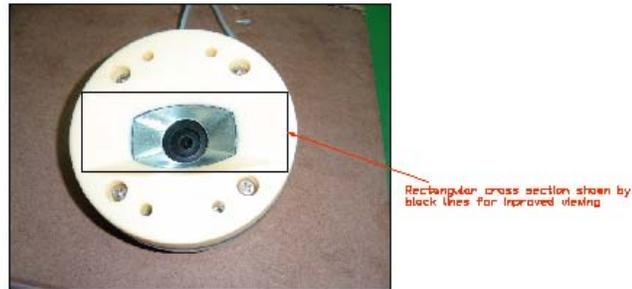
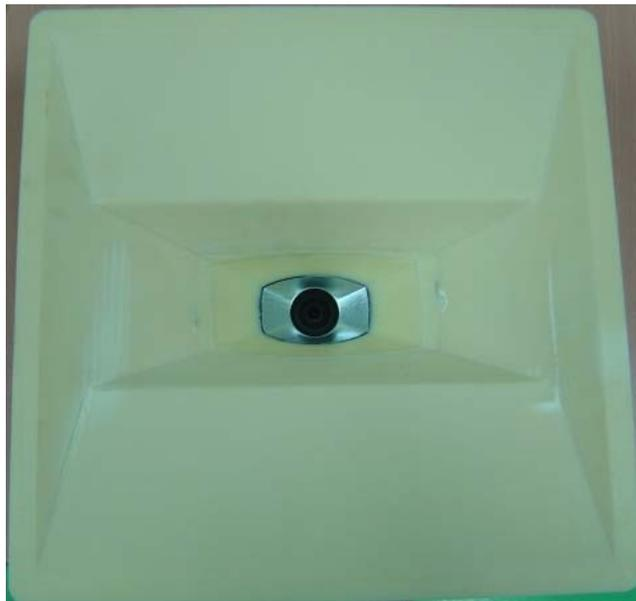
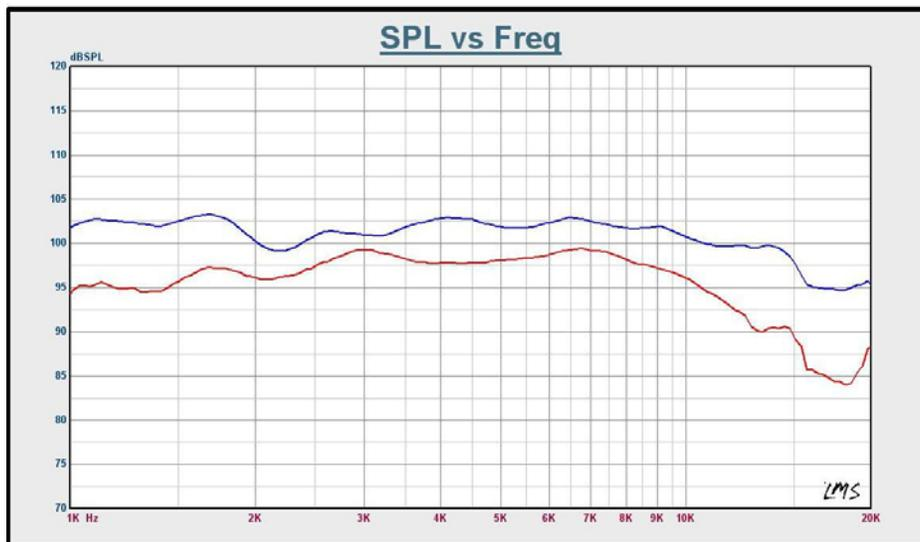

FIGURE 5
FIGURE 6
FIGURE 9
Figure 5 is a photograph of a prototype Equivalent Throat (ET) driver. The rectangular black line is the perimeter of the equivalent throat (this line was added for clarity. The photograph did not clearly show the perimeter of the equivalent throat section). As can be seen in figure 5, this prototype was designed to develop a rectangular radiation pattern. The silver colored geometry is the section of the magnetic return path steel back plate that is shaped to form a portion of the actual throat geometry. The equivalent throat design uses the entire thickness of the magnetic return path steel back plate to form the initial portion of the desired horizontal and vertical (for a rectangular implementation) radiation pattern of the driver/horn combination. The white portion of the photograph is an adaptor plate but is not necessary for proper operation of the equivalent throat design. The salient feature of the design is that the desired radiation geometry begin at the phase plug summation plane where the exit radius can be made a minimum for any given driver design. This requires that the thickness of the back plate, from plane “A” in figure 1 have the shape required to form the desired radiation geometry of the wavefront. This differs from a conventional design in that the conventional design has an exit radius on plane “B” of figure one. The conventional design exit radius is displaced from the phase plug summation plane by the thickness of the magnetic return path steel back plate. The conventional design exit radius is larger than the radius at the phase plug summation plane. (The conventional design could if fact be an unintentional subset of the equivalent throat design if the included angle between the phase plug summation radius and the larger exit radius were the desired included acoustic radiation angle for a horn of circular cross section.)
Figure 6 is a photograph of an equivalent throat driver with a matching equivalent throat horn. An equivalent throat horn differs from a conventional horn in that the entrance geometry of the horn must match the exit geometry of the driver or be adapted to the radius of the phase plug summation plane. In the example shown in figure 6, the horn's widest included (in the case of a rectangular pattern implementation) matches that of the widest angle that the radius associated with the phase plug summation plane.
Figure 9 represents the amplitude versus frequency response of the equivalent throat driver shown in figure 5 and the horn shown in figure 6. The top curve is the response of the horn and driver on the major acoustic axis of the horn. The lower curve is the amplitude versus frequency response 50 degrees off the horizontal axis. (The horn shown in figure 6 has a nominal horizontal included angle of 120 degrees and a vertical included angle of 60 degrees). This initial prototype was designed with a horizontal included angle greater than what the phase plug summation plane radius would support, per tables 1 and 2. The data presented in this figure clearly indicates a separation of greater than 6dB above 10 kHz.